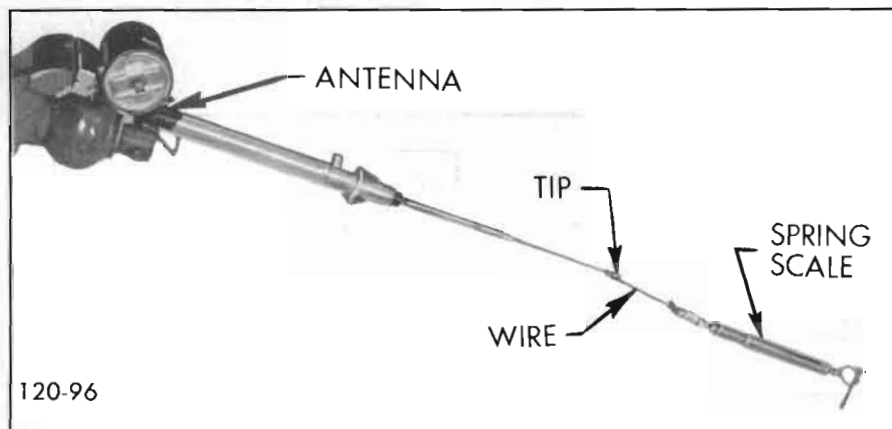

Figure 120-96—Antenna Adjustment Test
13. Lift antenna pressure adjuster spring off shaft (see Figure 120-96).
4. Connect one end of a wire securely to the mast just below the tip and the other end to a 25 lb. capacity spring scale. Secure the spring scale to the bench so that the centerline of the scale is in line with that of the mast assembly (see Figure 120-96).